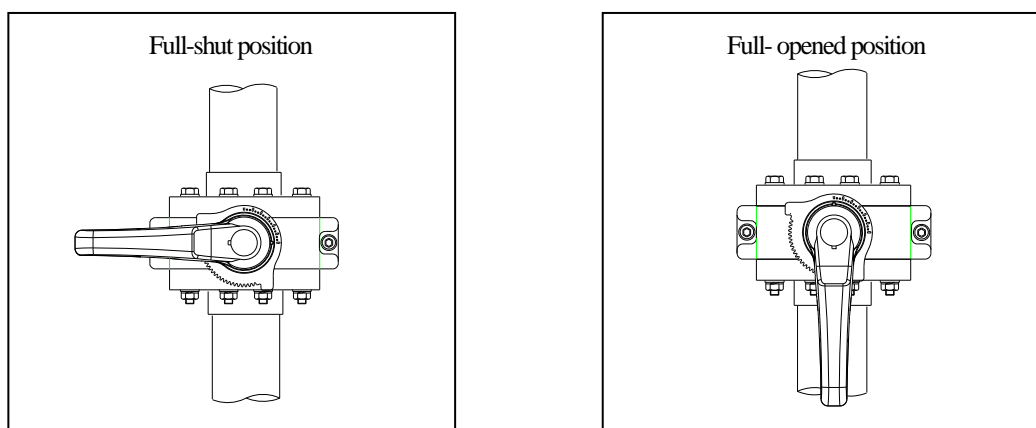

Fig.2
- 2) In case of lever type (50-125mm {2"-5"}), the direction of handle is same as the disc as shown in Fig.2.